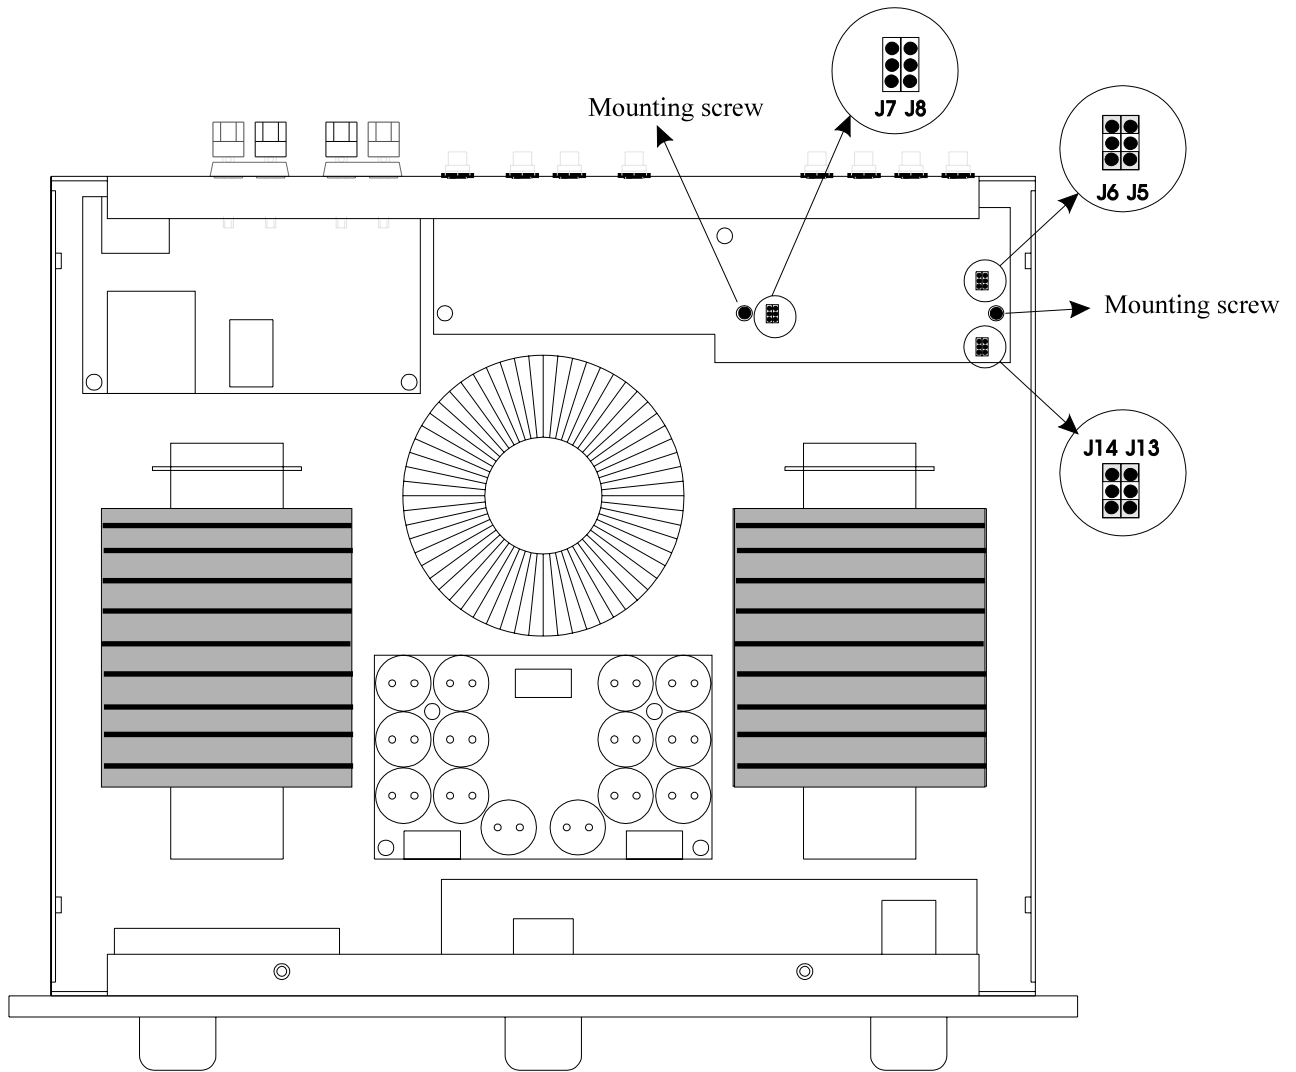

Fig 6: Phono jumper locations
- 3) Locate and replace the two mounting screws (see fig.6, page 20) with the supplied stand-offs.
- 4) Remove jumpers J5, J6 and J13, J14 (see fig.6, page 20). **Check if the extension sockets are in place on the reverse side of the phono board.**
- 3) Remove the screws securing the phono board, remove the phono board and the stand offs, replace the screws where the stand offs were removed (see fig.6, page 20) to secure the main board.
- 4) Replace jumpers J5, J6 and J13, J14 (see fig.6, page 20) on the main board. Jumpers from the phono board can be used for that purpose.